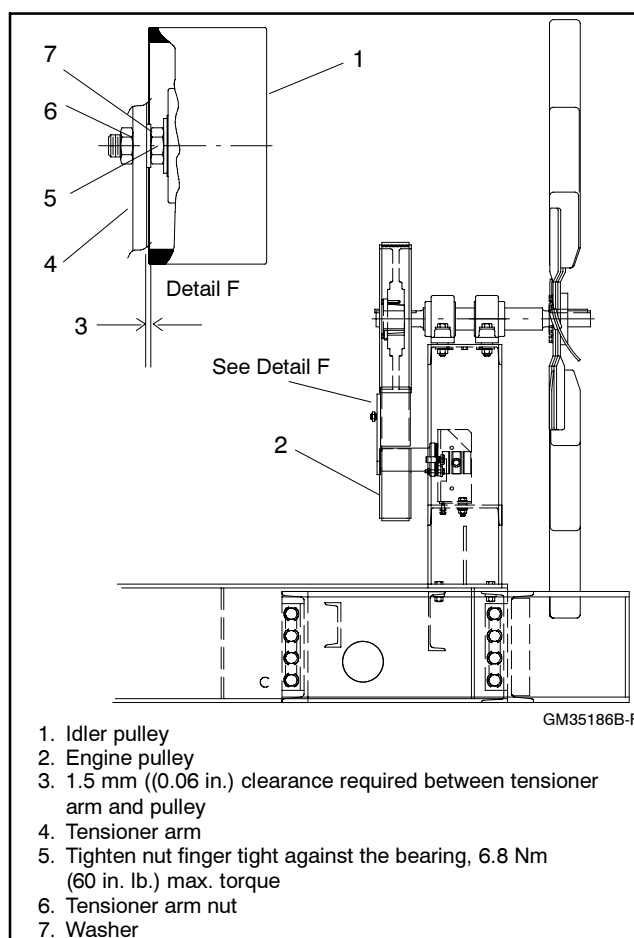

Figure 4 Idler Pulley Arm and Pulley Assembly
2.4.1 Remove the tensioner arm nut. See Figure 4.